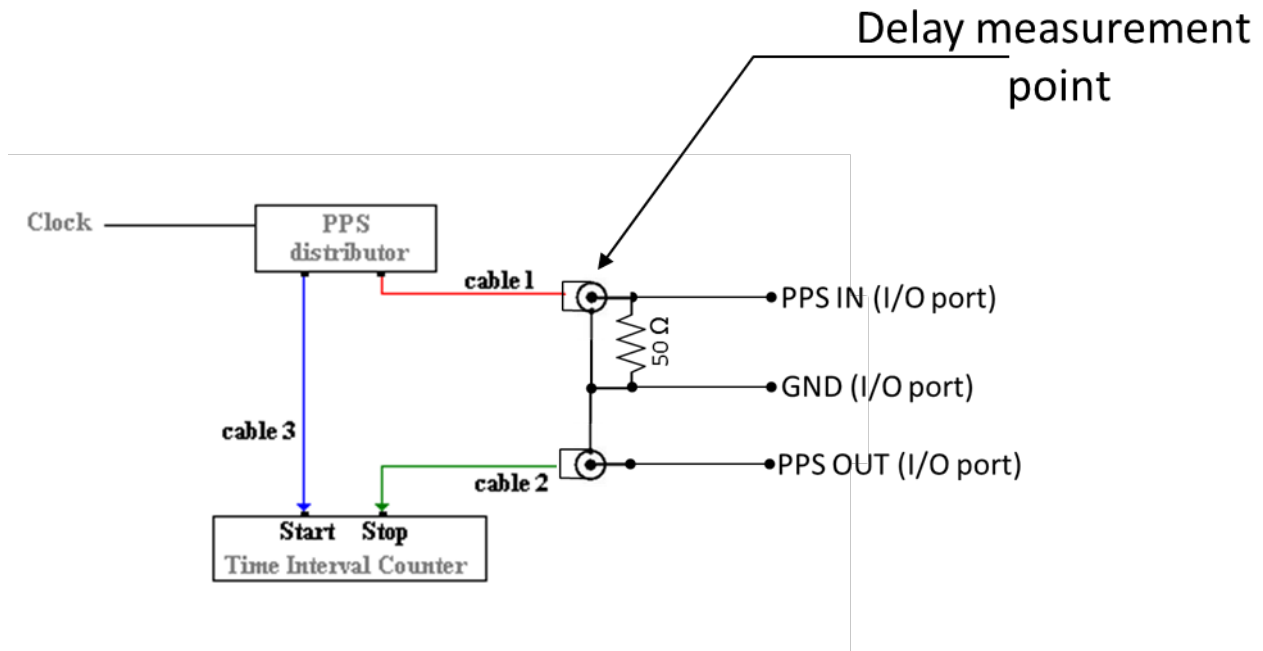

Figure 2. Setup to measure the delay between PPS OUT and PPS IN, tare included.
The connection of coaxial cables to the pins of the I/O port of the receiver must be done with care, interfacing properly with the TTL-compatible signal expected by PPS IN and provided by PPS OUT (see details in Figure 2). NIST uses a custom-made interface that includes a time interval counter and records the PPS OUT minus PPS IN on a text file. The two cases, one for a standalone receiver and the other one for the NIST case, will be described below.
- b. This measurement provides the PPS OUT minus the PPS IN, with tare included. The setup is shown in Figure 2: **note the details of the connection between the I/O port pins and the coaxial cables used for the measurement. The length of the connection between the I/O port pins and the two coaxial cables (cable 1 and cable 2) is not included in the measurement so it should be as short as possible.**